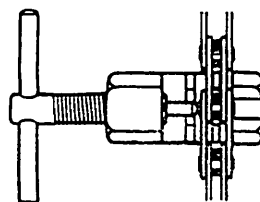

FIG. 42: Chain pin remover.
a. Put a chain pin remover on the rivet of a chain link (Fig. 42), screw in the handle until the pin is almost, but not quite, out of the chain plate on the other side.